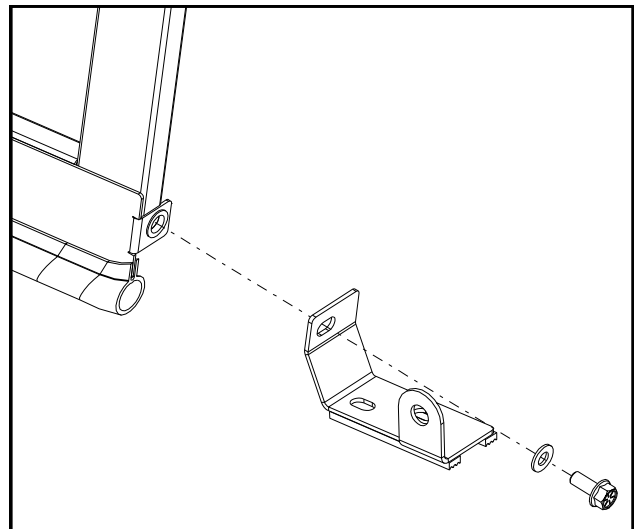

Fig. 5.3 (fender bracket onto sideframe tab - left)
5.3 Using hardware listed below, bolt the left fender bracket to the left sideframe tab. Making sure to fully tighten hardware down. See fig. 5.3. Repeat the process for the right fender bracket.